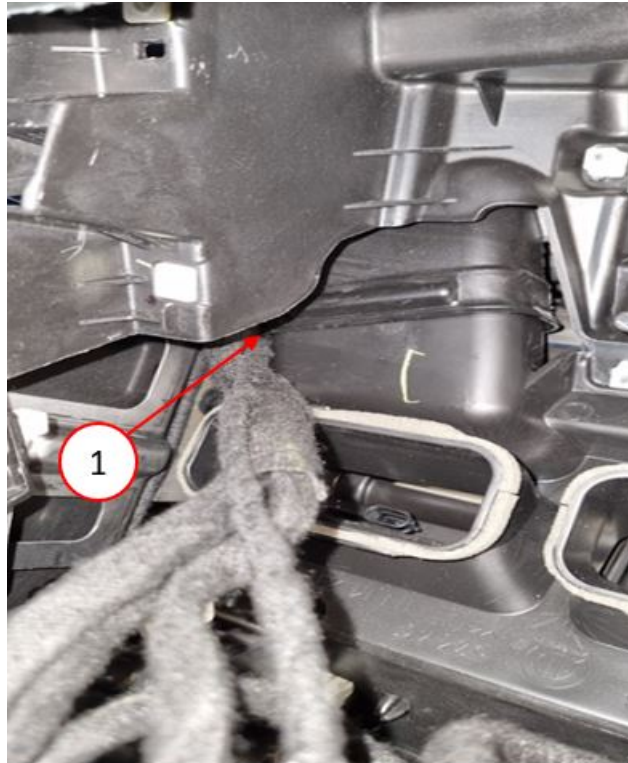

Fig. 4
7. Connector D2784N (red) to the radio and run the new jumper harness (P/N 68632387AA) through the hole on the left side of the Instrument Panel (IP) next to the main harness (Fig. 4) .